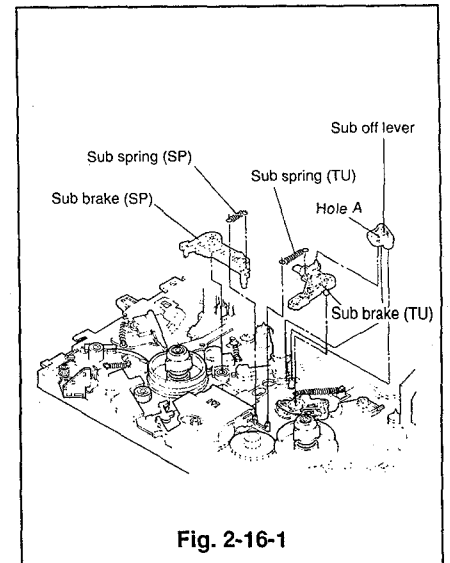
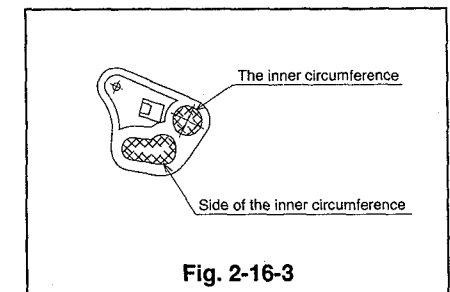

Fig. 2-16-1
Fig. 2-16-3
- ④ Remove the sub spring (TU). (Refer to Fig. 2-16-1.)
- ① Apply the grease (PG-641)[859D055O30] to the area shown in Fig. 2-16-3.
- ② Install the sub brake (TU) on the main plate.
- ③ Install the sub off lever so that the hole A aligns with the boss of the sub brake (TU) as shown in Fig. 2-16-1.
- ④ Install the sub spring (TU).
- ⑤ Install the sub brake (SP) and the sub spring (SP). (Refer to Para. 2-14 for the installation method.)
- ⑥ Install the cassette housing. (Refer to Para. 2-1 for the installation method.)